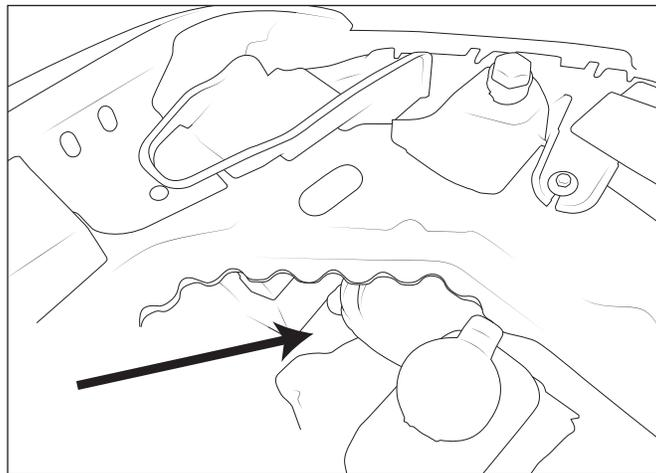

Figure 11
- Route Power and ground from Anderson connector below plastic fascia support, up below headlight and to battery (fig. 11). NOTE: do not connect battery yet!